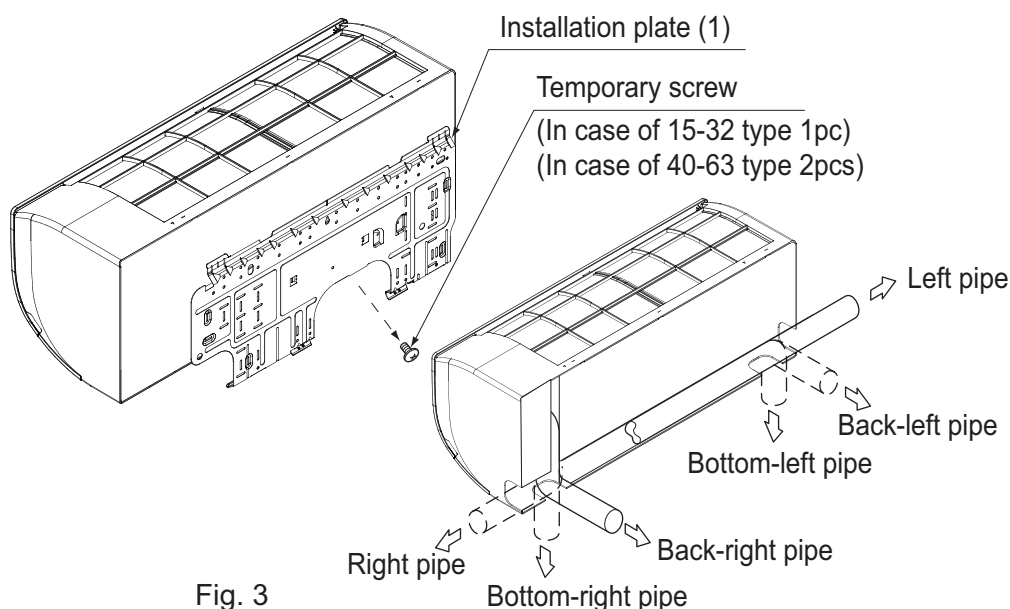

Fig. 3
- The refrigerant pipe and drain pipe can be passed out in one of 6 directions: left, bottom-left, back-left, right, bottom-right, and back-right. (Refer to Fig. 3)
(Refer to Fig. 3)